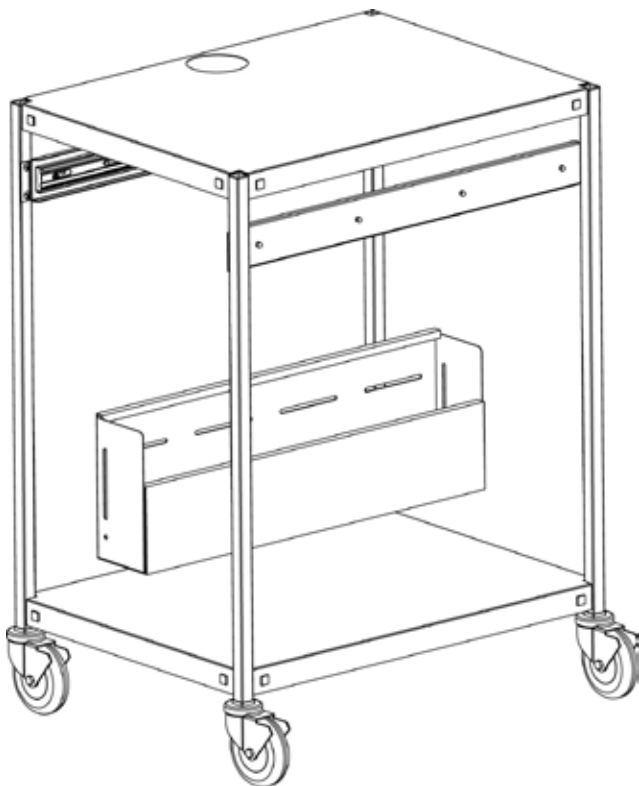

FIGURE 3
Slide cord bin between the rear legs as shown in **FIGURE 3**. Attach through the inside with screws (CC) and washers (II) as shown in **FIGURE 4**. The pictures on the next page show how to achieve a fixed or an adjustable position.